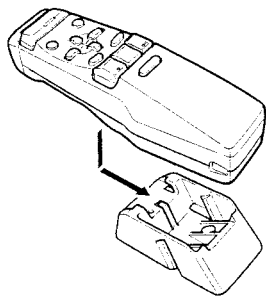

Fig. 12
■ Fitting horizontally (Fig. 12)